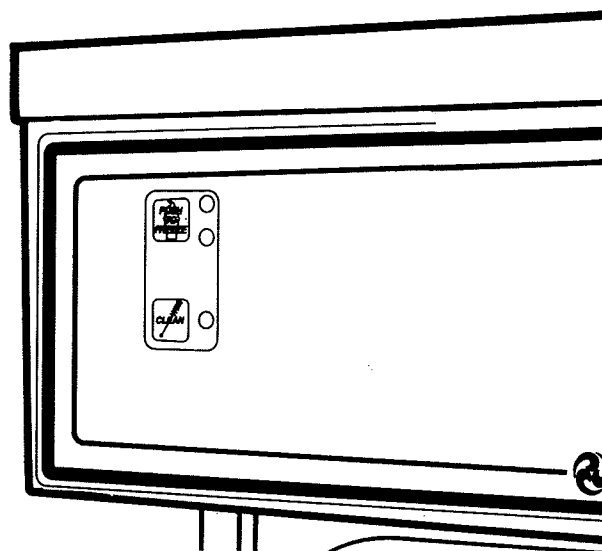

Figure 22. Clean Switch
E. Push the **CLEAN** switch to rotate the auger (Fig. 22).